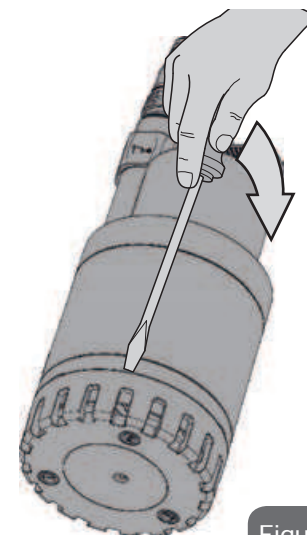

Figure 10
- Loosen the suction grid by inserting a screwdriver between the pump jacket and the suction grid and turning it (Fig.10).